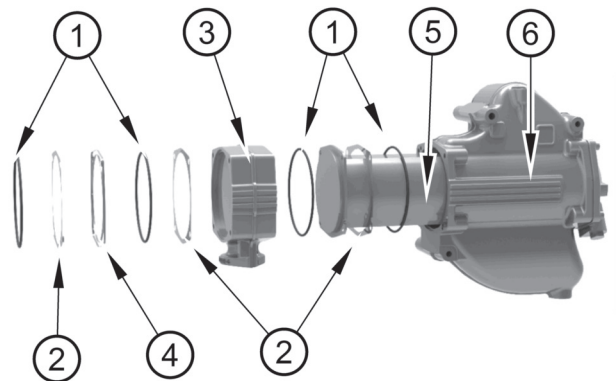

Figure 23
3. The aftercooler assembly can be broken down as per figure 23.